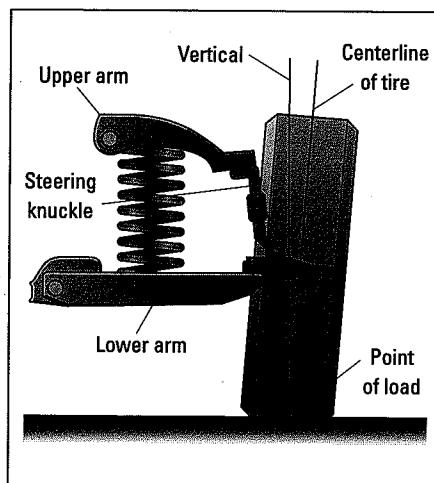

Figure 19-5:
- **Camber** is the inward or outward tilt of the top of the wheels when viewed from the front/rear of the car — how “bow-legged” or “knock-kneed” they are (see Figure 19-5). If the wheels don’t hang properly, your tires wear out more quickly, and your car is harder to handle.